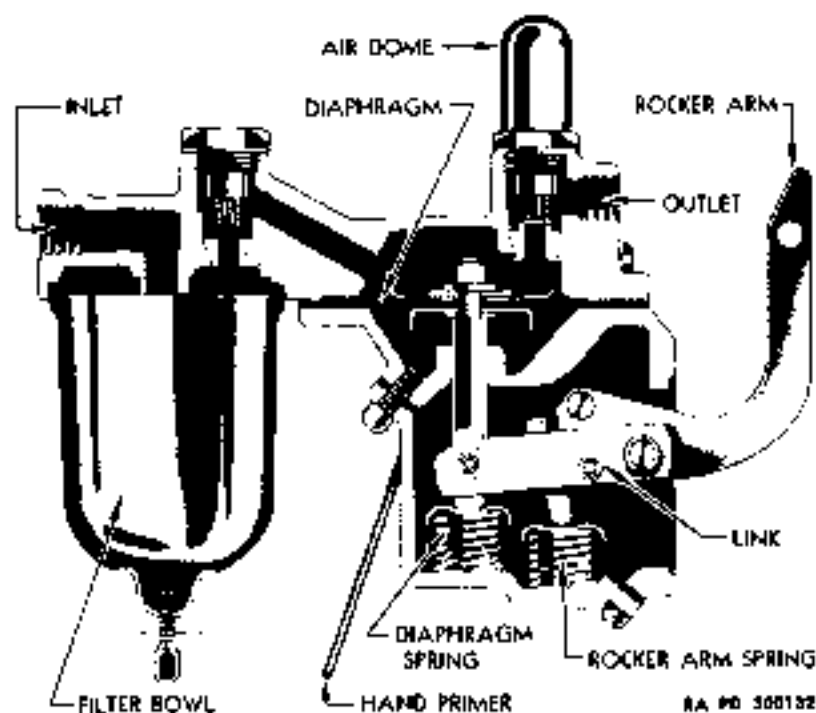

Figure 38—fuel Pump
a. **Description.** The fuel pump (fig. 38) is the diaphragm type, mechanically operated from the camshaft. The pump is equipped with